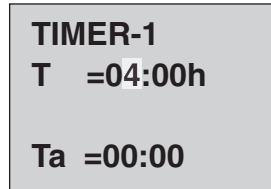

Fig. 5
4. Press OK to change the value of Timer-1. Using the left/right arrow key ◀ or ▶, move the cursor to the desired field and use the up/down arrow keys ▲ or ▼ to change this value. See figure 5.